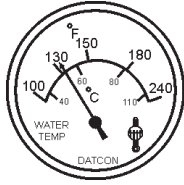

Figure 50. Coolant Temperature Gauge
- The **coolant temperature gauge** (Figure 50) will indicate the coolant temperature. Under normal operating conditions the coolant temperature should be between 167°~203°F (75°~95°C) (**Green Zone**).